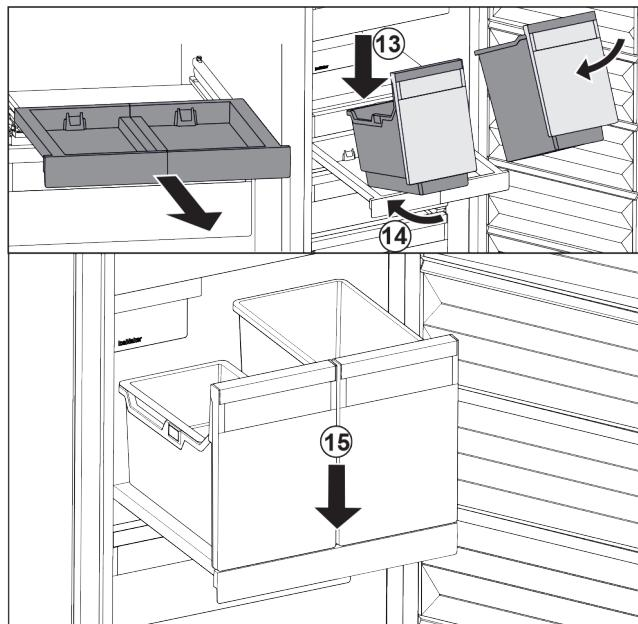

Fig. 105
- ▶ Place the container at an angle on the pull-out board. Fig. 105 (13)
- ▶ Slide the container to the back at an angle. Fig. 105 (14)
- ▶ Place container in the front. Fig. 105 (15)